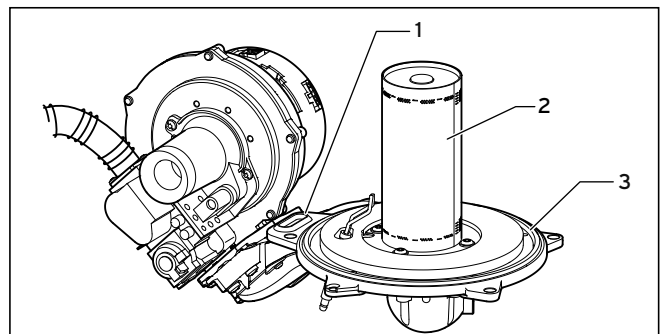

Fig. 8.5 Checking the burner
- Renew the seals (1) and (2) in the burner door (see Fig. 8.5).